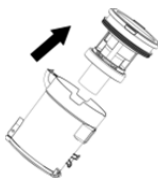
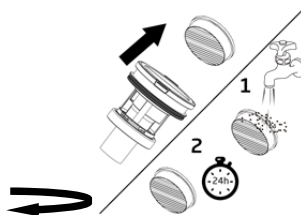
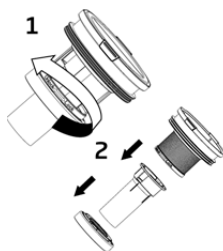
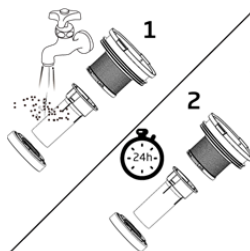

Fig. 14
Fig. 15
Fig. 16
Fig. 17
3. Lift out the cyclone from dust container (Fig. 14), lift out pre-motor filter and shake off dust frequently. Every three months rinse filter and dry thoroughly (Fig. 15), turn the filter assembly head clockwise to disassembly the cyclone filter (Fig 16), wash with running water, and **ensure it is completely dry** before next use (Fig. 17).